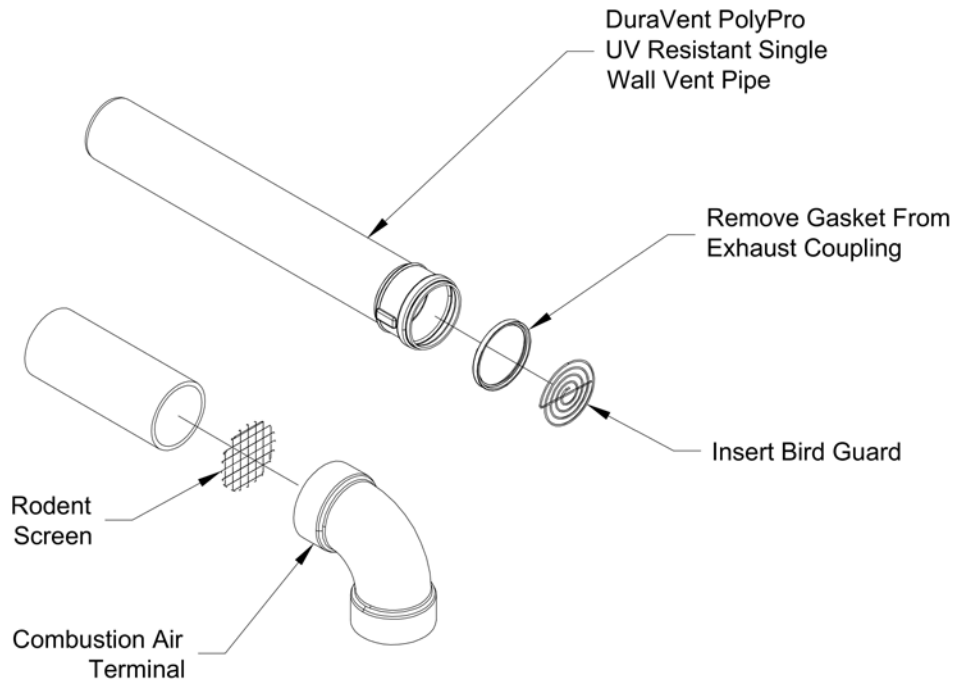

Figure 7.35: Installation of Duravent PolyPro UV Resistant Single Wall Horizontal Terminal
- a. See Figure 7.35 for proper orientation of twin pipe horizontal terminals. Outer edge of exhaust coupling must be 10" or less from the wall surface. (Figure 7.9)